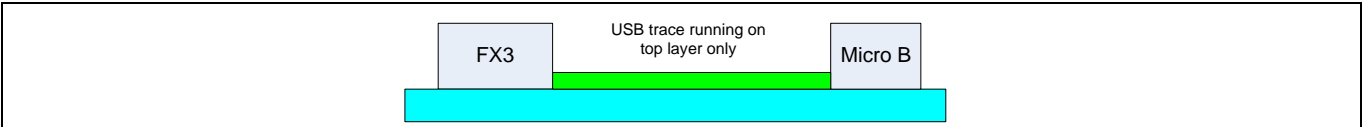
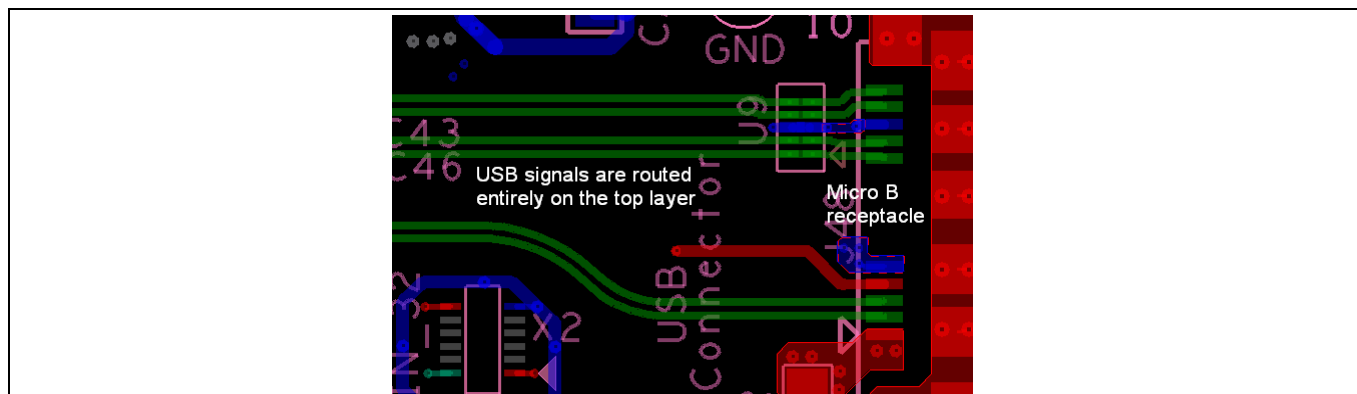

Figure 28 Micro-B receptacle placement
Figure 29 Micro-B receptacle layout
- Because the Micro-B receptacle is a surface mount receptacle, the USB signals can be routed entirely on the same layer as the EZ-USB™ FX3 device and the USB 3.0 Micro B receptacle. See **Figure 28** and **Figure 29** for the Micro-B receptable placement and Micro-B receptable layout respectively.